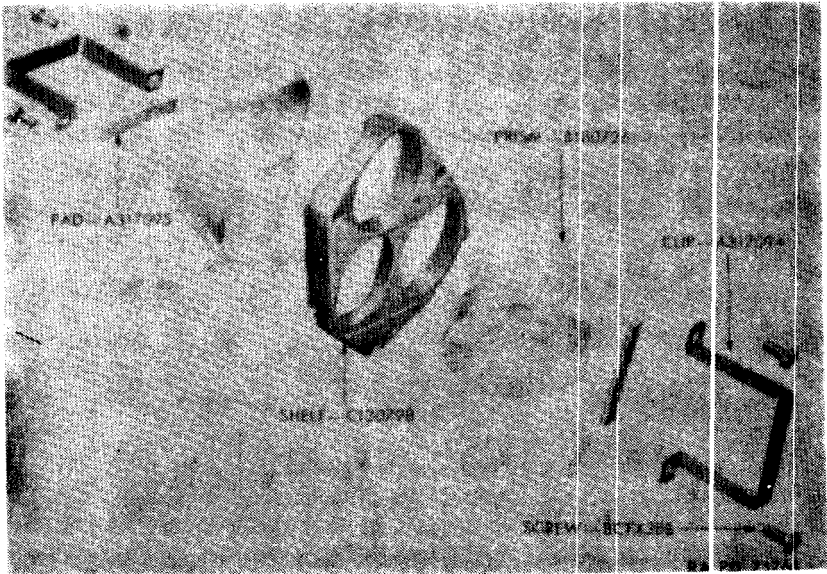

**Figure 16-Observation Telescope M4-Eyepiece Assembly B180758 Disassembled**
(1) Unscrew retaining ring A317065 (fig. 16).
(2) Hold eyelens cell slightly above a piece of soft cloth, or tissue, and tap lightly to remove field lens A317907 and separator A317066.
(3) Use same method to remove eyelens A316906, tapping more vigorously or pushing against eyelens if necessary. Care should be exercised that the bare fingers or table surface do not touch the lens. After removal, wrap the lens in a piece of lens tissue paper and store in a safe place.